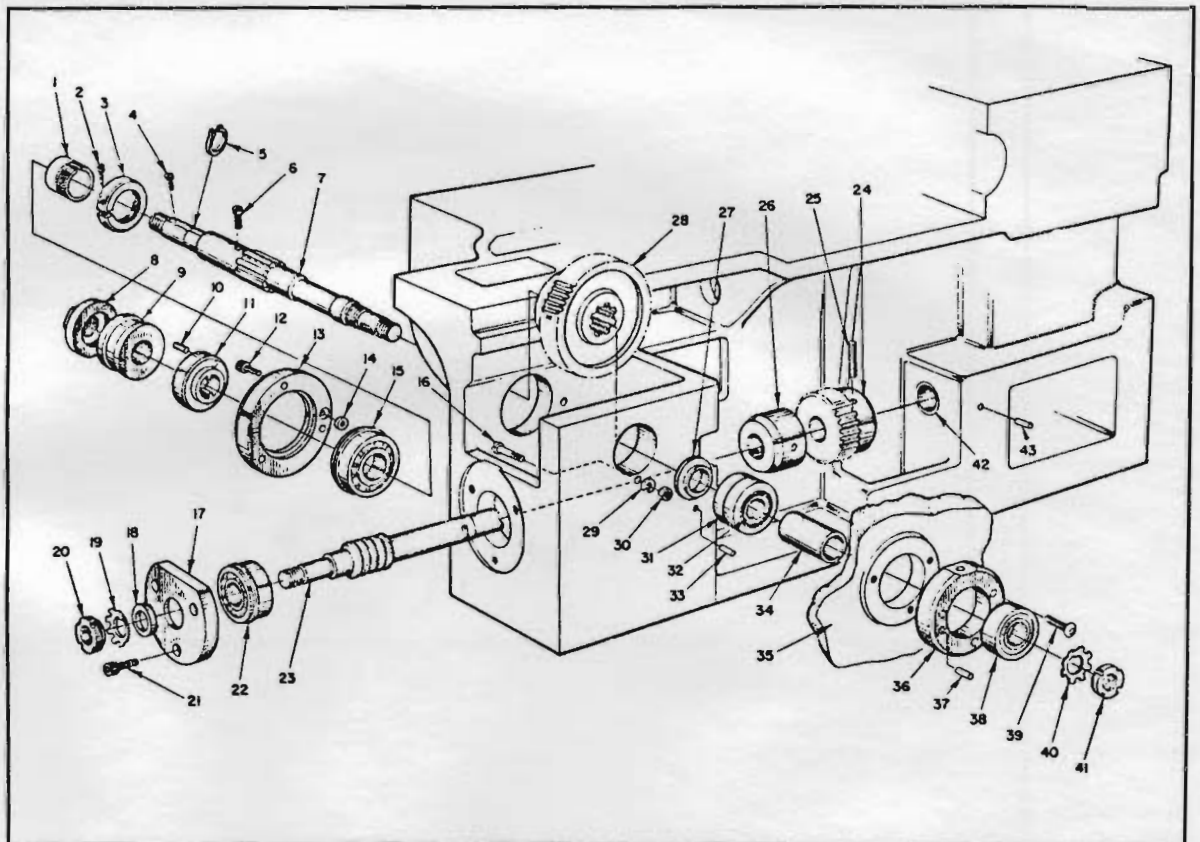
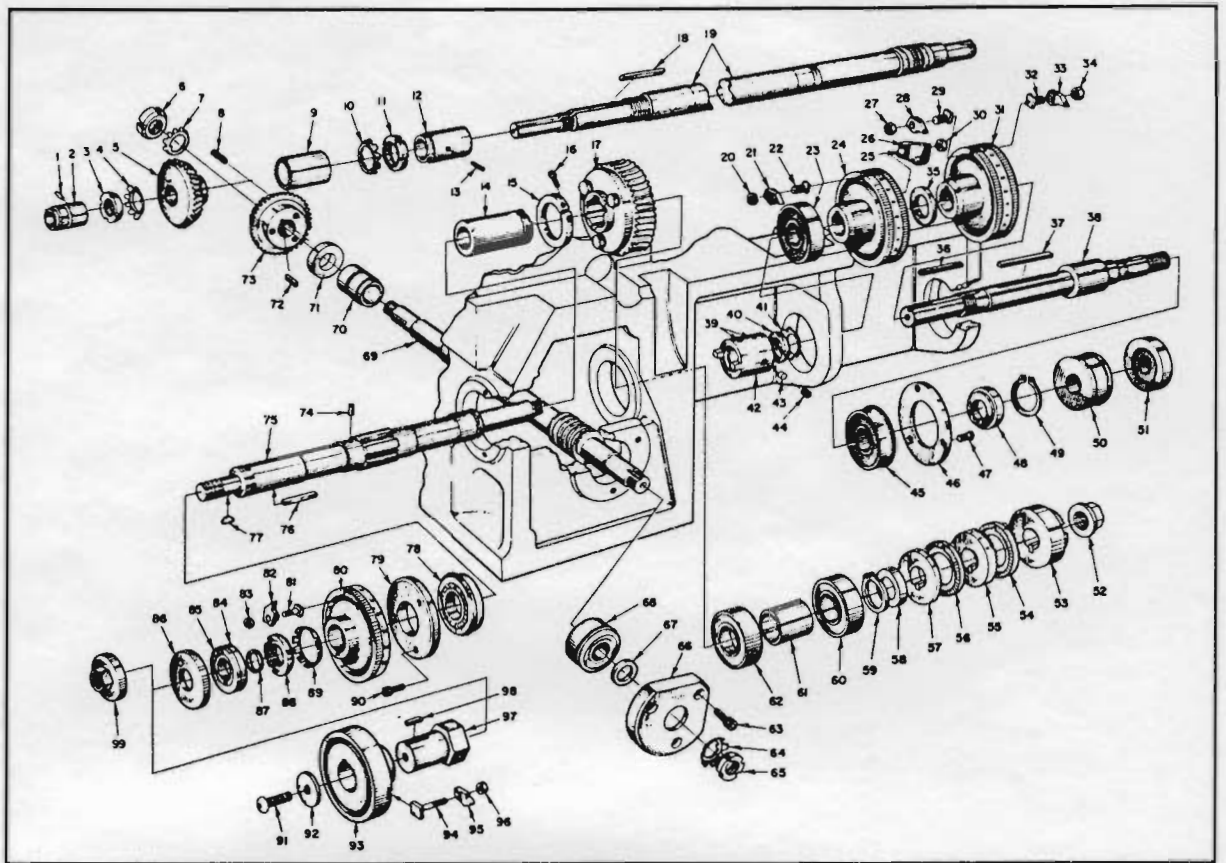

Figure 3-16
Figure 3-17
To replace the lead worm shaft on machines starting serial numbers 542-00-3300 and 542-2-3100, refer to Figures 3-16 and 3-17 and proceed as follows:
3. Remove the lead cam and rotate the lead worm shaft, (Item #23) (Figure 3-16) until the small end of the drive gear pin, (Item #25) is toward you. With the proper size punch, drive the pin out.
4. Remove three screws, (Item #21) from the bearing bed cap, (Item #17). As the lead worm shaft, (Item #23) is pulled out, it will be necessary to remove (Figure 3-17) two locknuts, (Items #11 and #3), lead worm shaft gear, (Item #5), and shaft adjusting sleeve, (Item #9).
6. Remove ball bearing from lead worm shaft. Replace if necessary. Press bearing onto shaft, (Item #22), replace and install (Items #17, #18, #19, #20) (Figure 3-16).
11. Start lead worm shaft into bed, slip on (Item #24). (Figure 3-16) Slide shaft through center bearing, then, refer to Figure 3-17 and put onto shaft (Items #11, #10, #9, #5, #4, and #3). Now install the shaft all the way into bed and secure with three #21 screws as shown on Figure 3-16.
12. Match the lead worm shaft gear (Item #5) to the cross slide worm shaft gear (Item #73) and lock in place with locknut and lockwasher (Figure 3-17).
13. Pin (Item #24) to shaft with (Item #25) (Figure 3-16).